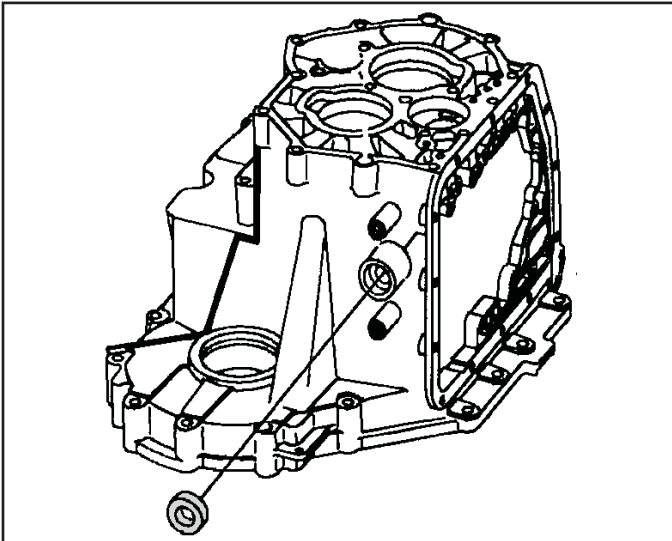

Figure 82
38. Remove the linkage seal (See Figure 82).